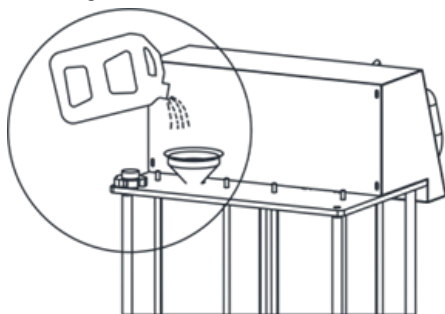

Fig 3.
2. Refer to the vehicle manual for specifications and quantity of antifreeze. Open the cap of the new tank at the rear of the unit, add antifreeze of the appropriate quantity (Max.12L) through a funnel and tighten the tank cap to seal it (Fig. 3).